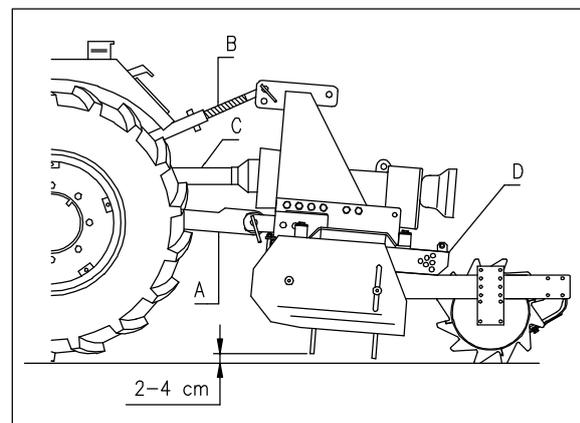

FIG. 6
6. Check harrow working height shall be adjusted, so that the front tines are 2/4 cm higher than the back ones, as per figure 6. This adjustment shall mainly be made with the tractor third point B or adjusting the rear roller D.
3. Connect the third point of the tractor with the 3 points coupling upper pin, adjusting it in order to maintain the harrow in the position described in the figure 6;
tractor to the 3 points coupling upper pin, adjusting it in order to maintain the harrow in the position described in figure 6.